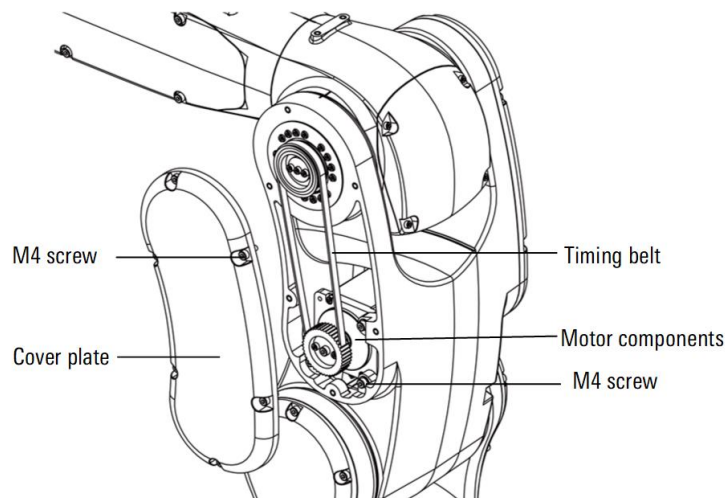

Figure 10-5 Diagram of J3 axis synchronous belt replacement
Step4.Remove the manipulator cover and 6 screws, as shown in Figure 10-5.